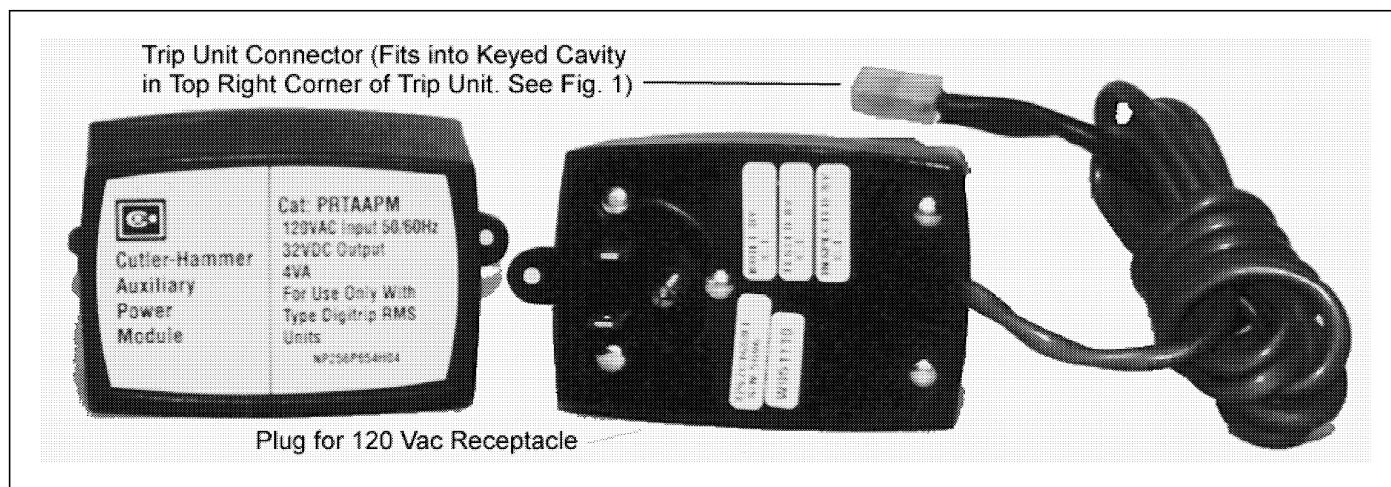

Fig. 7 Auxiliary Power Module
Since the Digitrip RMS 510 Trip Unit is completely self-powered using energy derived from the current sensors installed in the circuit breaker, all in-service tests conducted should be conducted with the auxiliary control power module, shown in Fig. 7, plugged into the trip unit. This action will avoid difficulties caused by load current levels that are too low to operate the trip unit.
- 1) **Before starting any test sequence**, check the Unit Status (Green LED) in the lower right corner of the trip unit (See Figs. 1 and 5) to be sure it is blinking on and off about once each second, which indicates that the trip unit is functioning normally. In the event the Unit Status LED is not blinking, install an Auxiliary Power Module (APM) (See Fig. 7), or if you have one already, check to see that it is connected correctly.
- a) *the current is not less than 10% of the breaker frame (or current sensor) rating; be sure the “GREEN” Unit Status LED (in the lower right corner of the trip unit (See Figs. 1 and 5) is blinking on and off (indicating that there is enough current flowing to provide the power necessary to operate the trip unit). In the event the Unit Status LED is either lighted “GREEN” or “OFF” continuously, there is NOT enough current flowing to power the trip unit; and an APM (See Fig. 7) should be installed before proceeding with the test.*
- 3) **When performing tests on the Long Delay element**, be aware that in addition to the standard protection element, the Digitrip RMS 510 Trip Unit also has a Long Time Memory function (LTM), which serves to protect load circuits from the effects of repeated overload conditions. (See NOTE 1 under Section 4.3 Long Delay Time Setting.) The action of the LTM will have the same effect of advancing the Long Delay Trip Time if multiple Long Delay Time tests are performed repeatedly - as one might do in making single phase tests on each pole of a breaker in succession, for example. If you have sufficient experience in performing tests with this kind of accelerated trip timing, you may be comfortable with the results of tests performed in quick succession. However, if there is any question, you may simply wait about ten (10) minutes after a Long Delay Trip for the LTM to reset, before you check the next pole.
For testing the trip unit, an optional Auxiliary Power Module (Cat. No. PRTAAPM) as shown in Fig. 7 is recommended. This Auxiliary Power Module, which operates from a separate 120 Vac supply, may be used when a drawout circuit breaker is in any of its four cell positions, i.e., “Connected”, “Test”, “Disconnected” and “Withdrawn” (or “Removed.”)
Note: For Testing Purposes Only: When using an external single phase current source to test low level ground fault current settings, it is advisable to use the Auxiliary Power Module (APM) (See Fig. 7). Especially when the single phase current is low, without
The Auxiliary Power Module or APM (Cat No. PRTAAPM), illustrated in Fig. 7, is an encapsulated power supply that requires a 120 Vac input at either 50 or 60 Hz. It provides an output of 32 Vdc (nominal 40 Vdc open circuit) which can be used for testing a Digitrip RMS 510 Trip Unit.